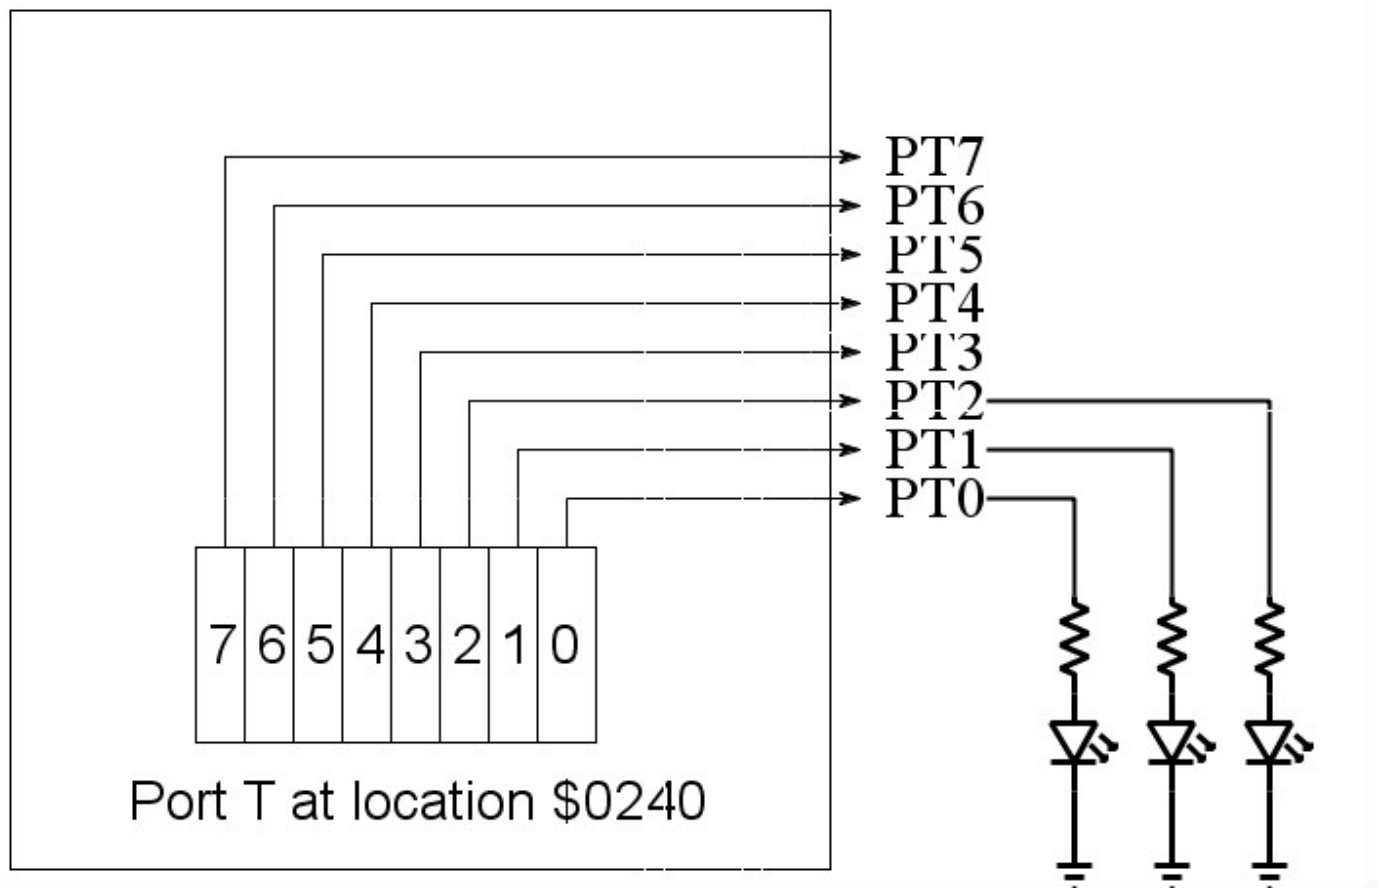

Figure 1.
4. Build the circuit in Figure 1. below.